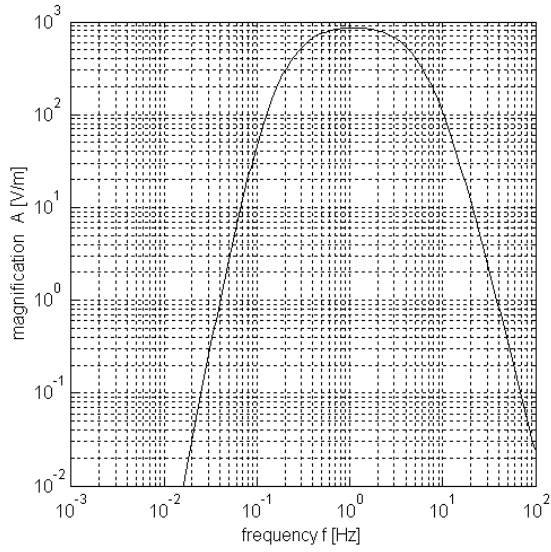
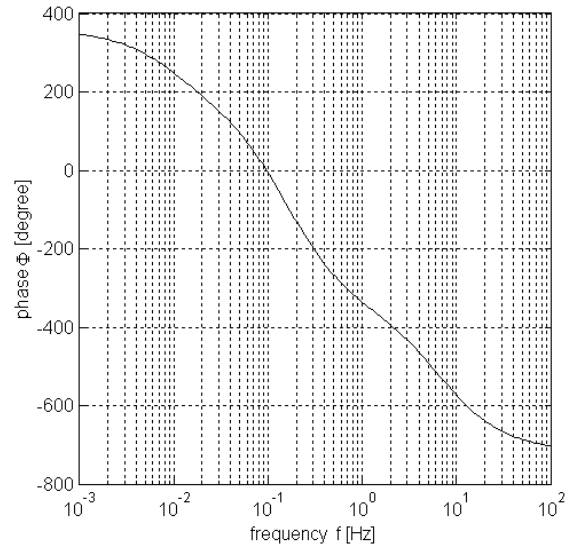

Figure 1a Amplitude Response.
Figure 1b Phase Response.
*True ground motion* is of major interest in seismology. On the other hand any measuring device will alter the incoming signal as well as any amplifier and any output device. Working in the frequency domain, the quotient of input signal and output signal is called the *response*. This response is complex, and to get a more meaningful result it can be split into two terms: amplitude response and phase response (see 5.2.3). Amplitude response means the output amplitude divided by the input amplitude at a given frequency. Phase response is the difference between output phase and input phase, or the phase shift. A graphical expression of this splitting is known as the BODE-diagram. One part shows the logarithm of amplitude  $A$  versus the logarithm of frequency  $f$  (or angular frequency  $\omega$ , or period  $T$ , see Figure 1a). The other part depicts the (linear) phase  $\phi$  versus the logarithm of frequency  $f$  (or  $\omega = 2\pi f$ , or  $T = 1/f$ , see Figure 1b). For  $A$  the terms *amplification* or *magnification* are also used.